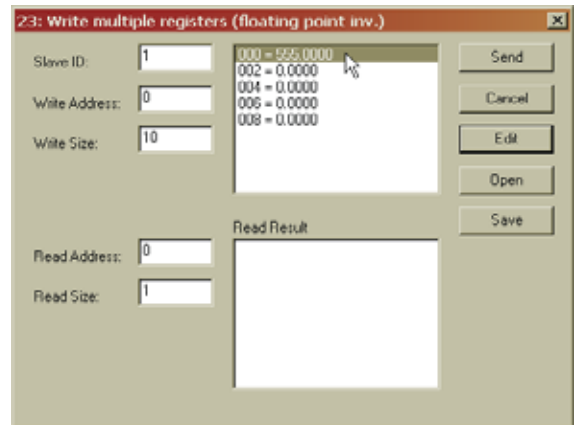
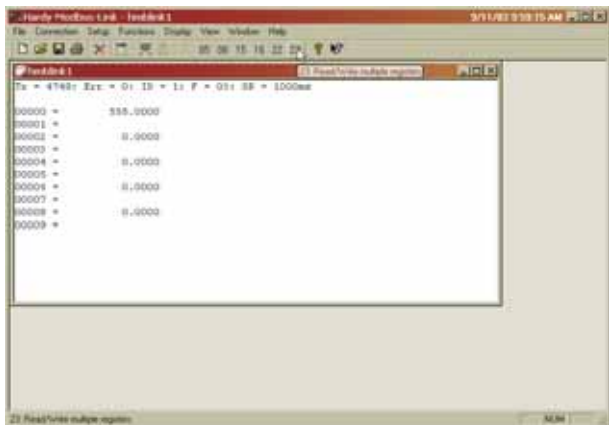
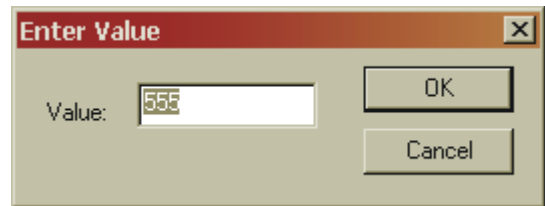

FIG. 177: HARDY MODBUS-LINK DISPLAY/ WRITER MULTIPLE REGISTERS DISPLAY
FIG. 176: HARDY MODBUS-LINK DISPLAY/ SELECTING BUTTON 23 - READ/WRITE MULTIPLE REGISTERS
FIG. 178: HARDY MODBUS-LINK/ENTER VALUE DISPLAY
- Click on button 23, (See Fig. 176) the Read/Write Multiple Registers. The Write multiple registers display appears. (See Fig. 177)
- Double click on "555.0000". (See Fig. 177) The Enter Value display appears with the value 555 which was sent from the HI 3000 module. (See Fig. 178)